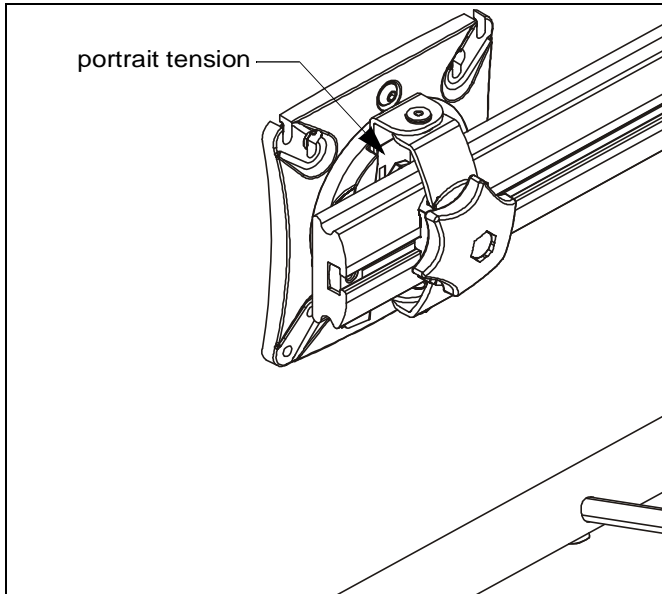

Figure 19
1. The monitor may be adjusted 90 degrees in either direction in order to provide a portrait view of the monitor. (See Figure 19)
2. Use 3/16" hex key (P) to adjust rotational adjustment screw to adjust rotational tension. (See Figure 19)